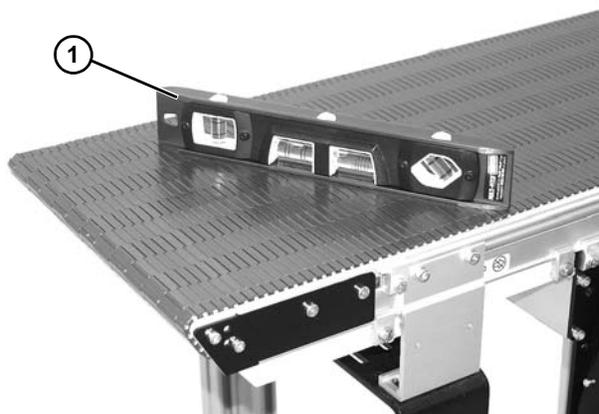

Figure 5
Conveyor *MUST* be mounted straight, flat and level within confines of conveyor. Use a level (Figure 5, item 1) for setup.